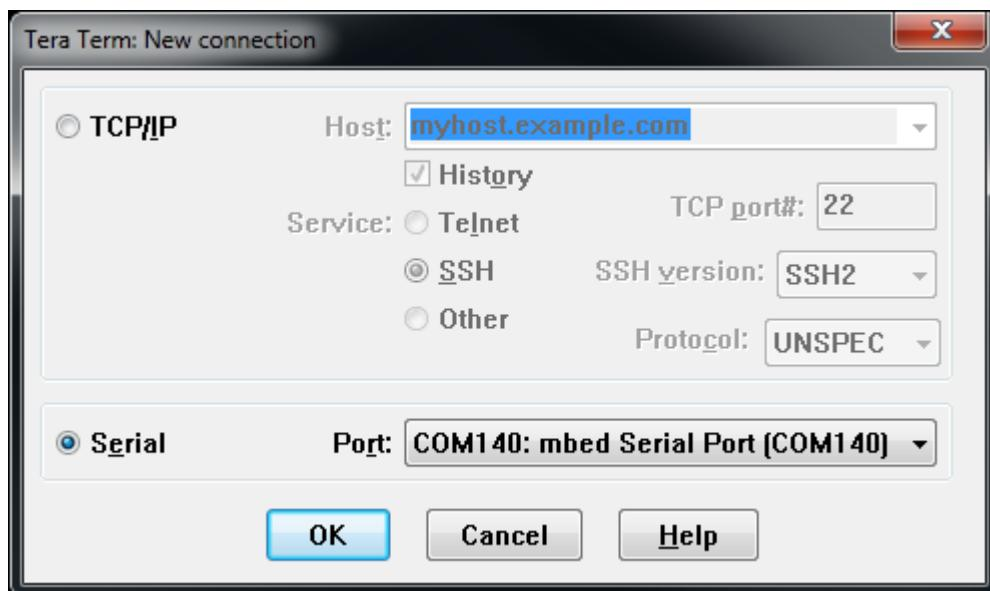

Figure 12. Connect to mbed Serial Port
- 4) Open the terminal application and connect to the mbed serial port. If you are using TeraTerm, select **File** and then **New Connection...** from the menu bar, and then select **Serial**. Provide the **Port** corresponding to **mbed Serial Port**, as shown in Figure 12, and click **OK**.